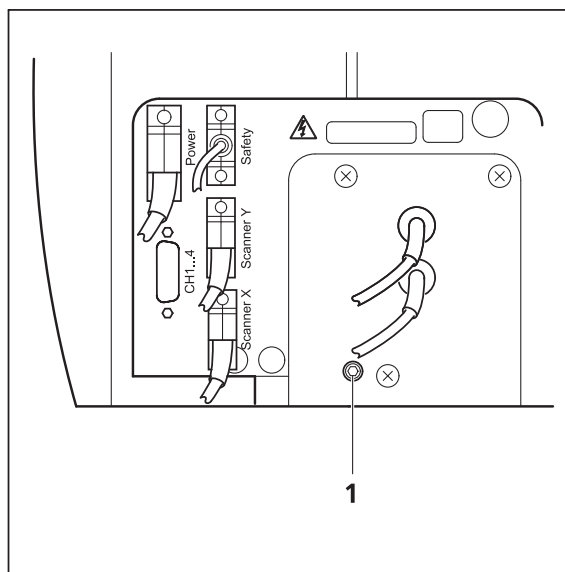
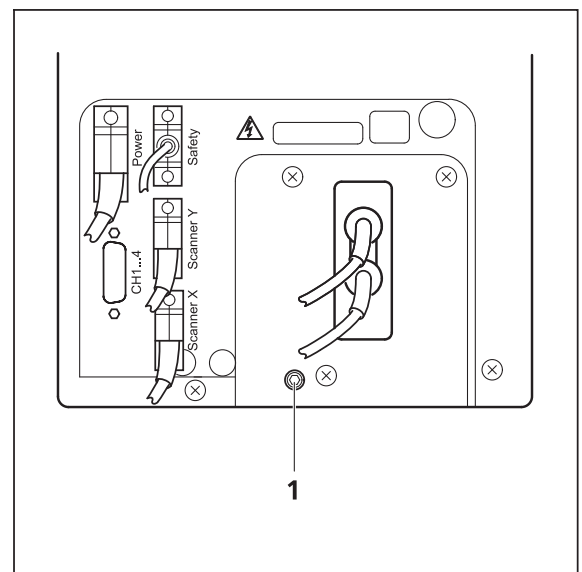
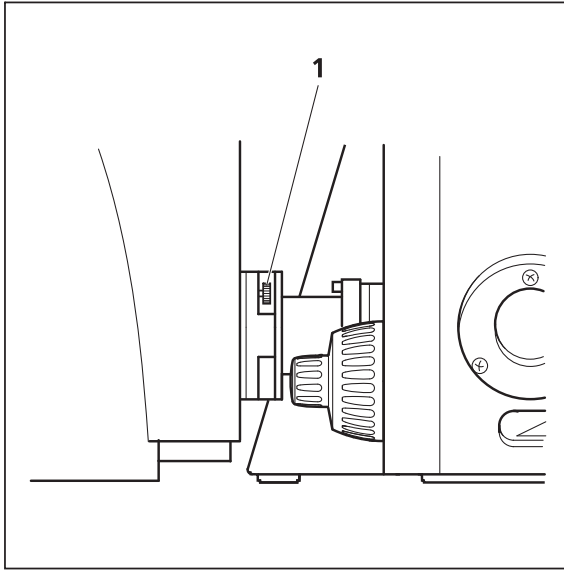
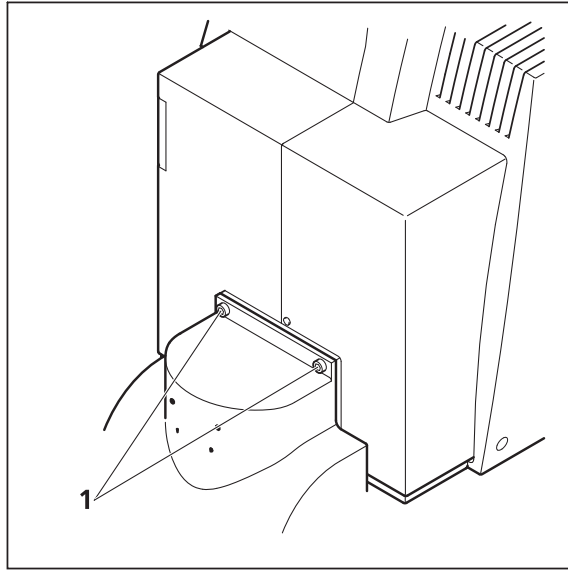

Fig. 1-18 Position of the screw on the LSM 510 META scan head
Fig. 1-19 Position of the screw on the LSM 510 scan head
Fig. 1-20 Port connection between LSM and Axio Observer.Z1
Fig. 1-21 Fastening screws of the scan head at the front of the tube on Axioskop 2 FS MOT and Axio Imager.Z1
- Loosen the screw on the lower end of the scan head (Fig. 1-18/1 and Fig. 1-19/1)
- Loosen the screws on the port to the microscope for Axio Observer.Z1 (Fig. 1-20/1) or to the tube on Axio Imager.Z1 and Axioskop 2 FS MOT (Fig. 1-21/1).
- Slowly pull the scan head away from the microscope port or the tube. For mounting the scan head onto a microscope, make sure the pins and the electronic connections of the safety interface match closely. Fasten the screws on the front of the tube (Fig. 1-21/1) or at the microscope port (Fig. 1-20/1) followed by fastening the screw on the back of the scan head (Fig. 1-18/1 and Fig. 1-19/1).